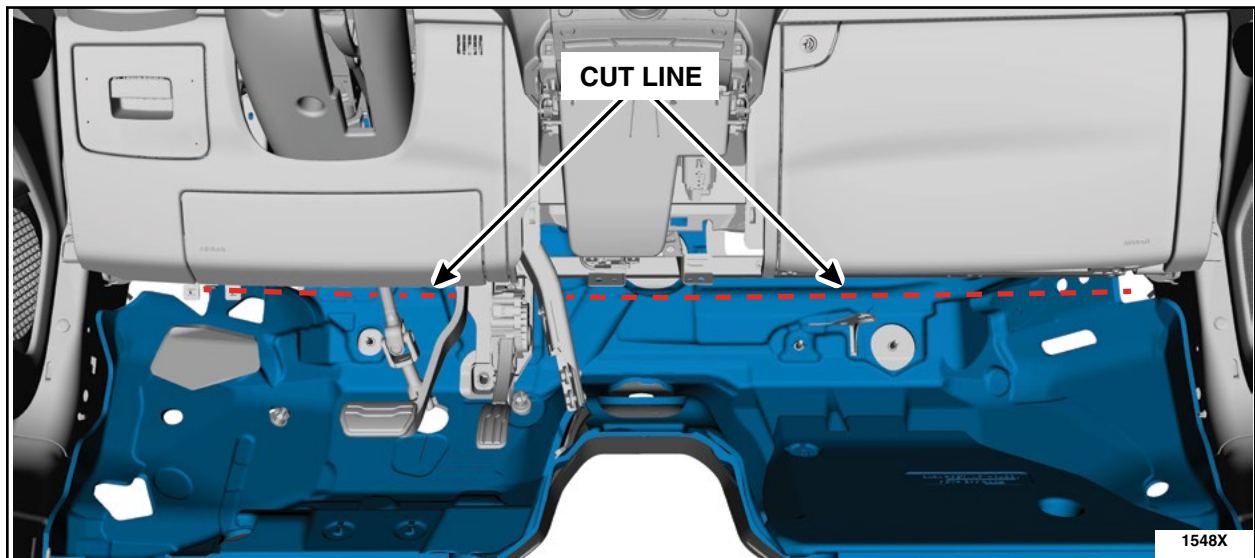

FIGURE 15
22. If possible, the affected wet portion of the instrument panel insulator pad should be cut out of the vehicle without removing the instrument panel at this time, so that the vehicle can be moved within the dealership until final repairs can be performed. Discard the removed portion of the instrument panel insulator pad. See Figure 15.